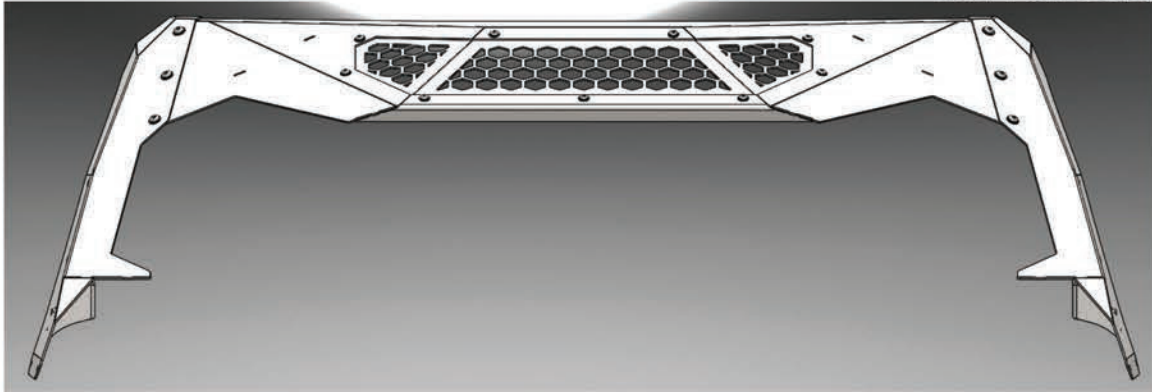

Fig 14
- f. Loosely install both ViCowl arms to the visor using the provided $\frac{3}{8}$ "-16 stainless steel bolts and rubber bonded washers as shown in **Fig 14**.